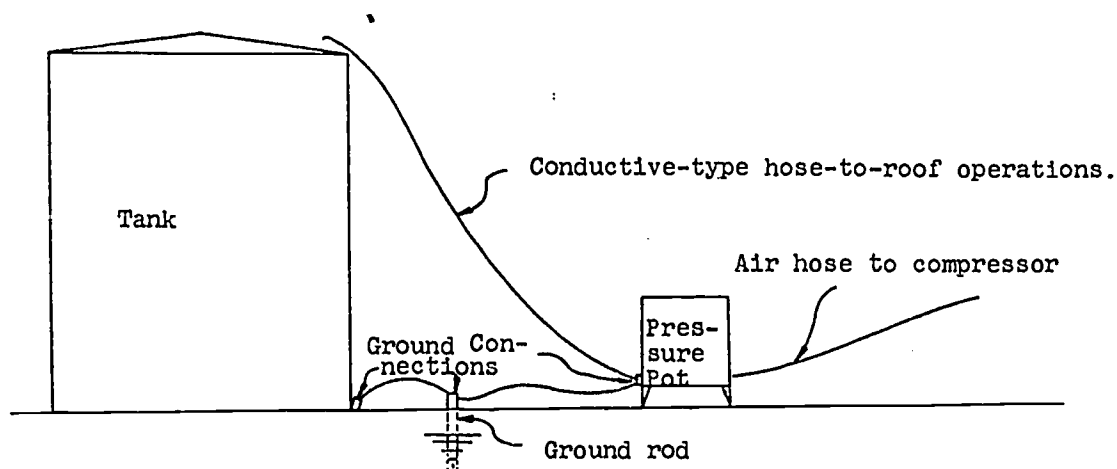

Figure 26. Grounding of Tank and Equipment.
(1) Use only approved equipment. Use remote control deadman valves on high pressure equipment (60 lbs. or higher). These should be activated by the same air used for blasting or spraying. See Air Force Technical Orders T.O. 00-25-232N "High and Low Pressure Terminology" and T.O. 34Y1-1-171 "Hydrostatic Testing".
(2) Conduct a hydrostatic test at least once, preferably twice a year. Test safety relief valves daily.
(3) Use conductive hose. Ground nozzles, tanks and pressure equipment when in use, also object being sprayed. (See Figures 26 and 27.)
(4) Store hose in dry areas. When in use, avoid sharp bends, especially when curved around an object. Secure high pressure hose no more than 10 ft. from operator.
(5) Never point gun or nozzle at anyone or any part of the body. When handling or carrying, hold by the grip and remove the fingers from the trigger.
(6) Release all pressure before disconnecting any part of the equipment.